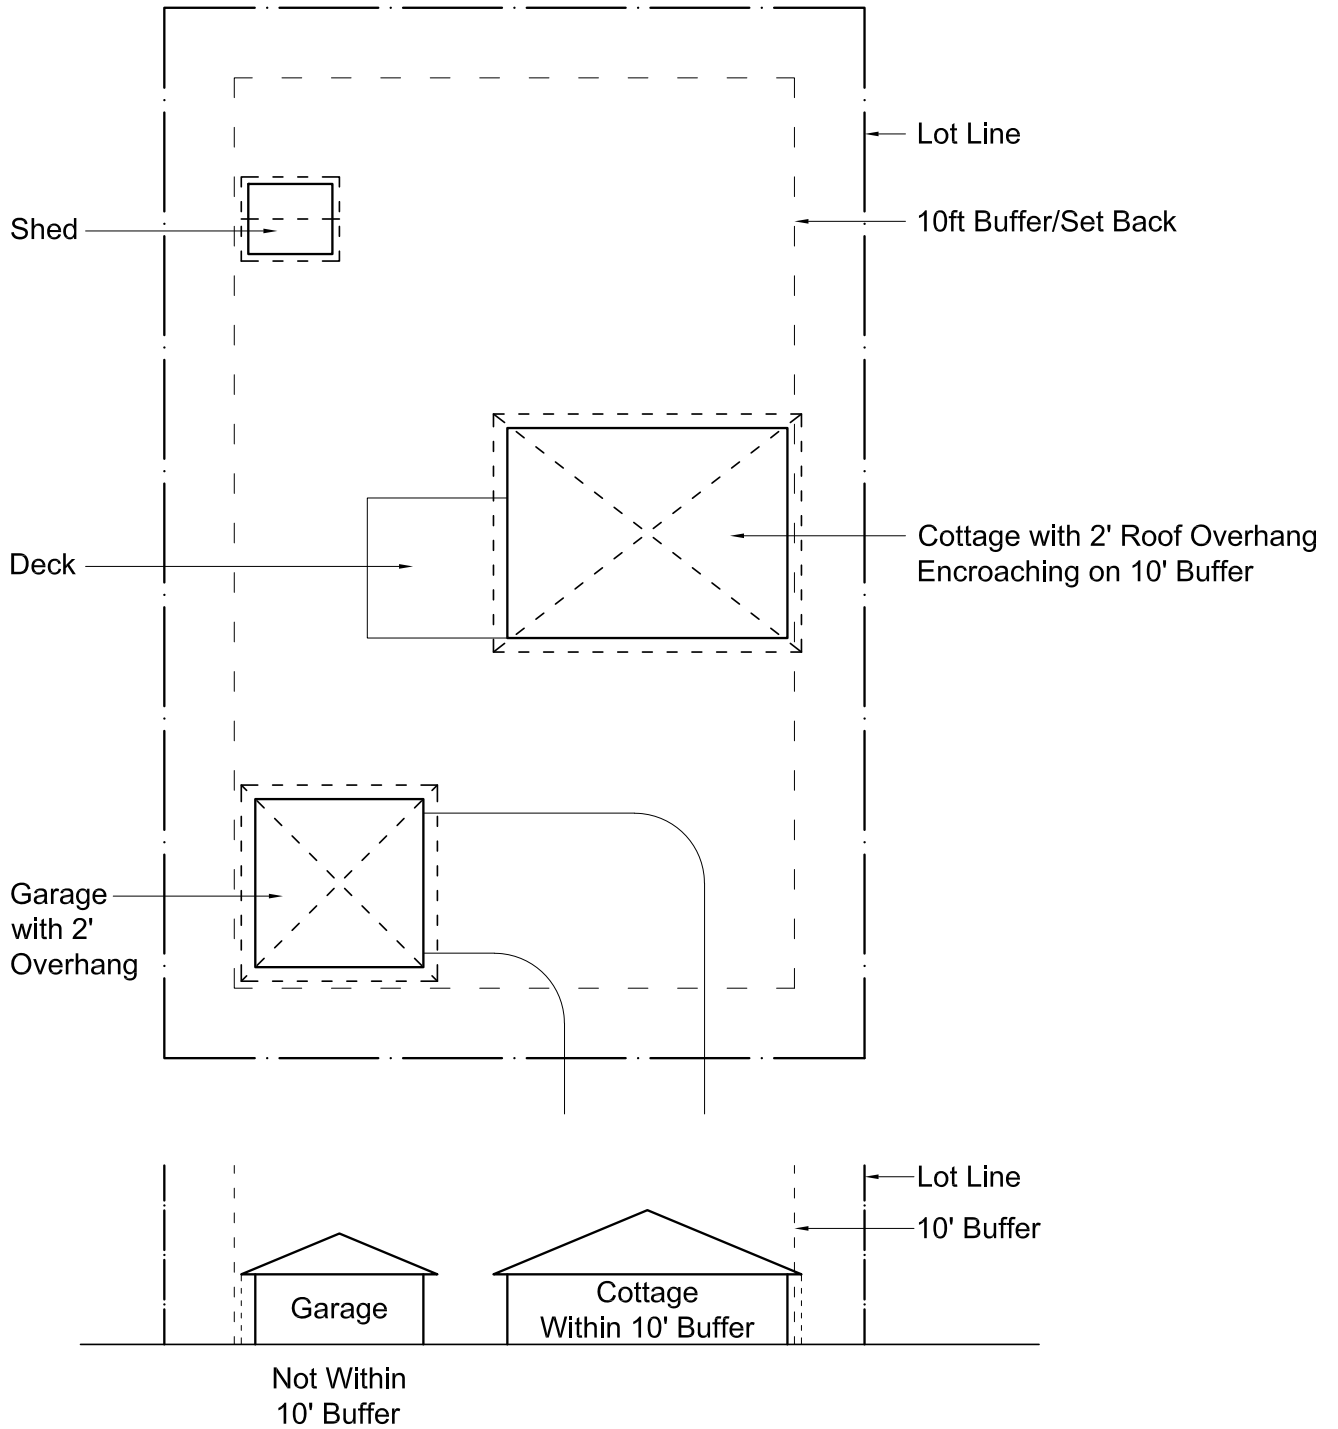

**Figure 2.2**
**Please see Figure 2.2 for reference.**